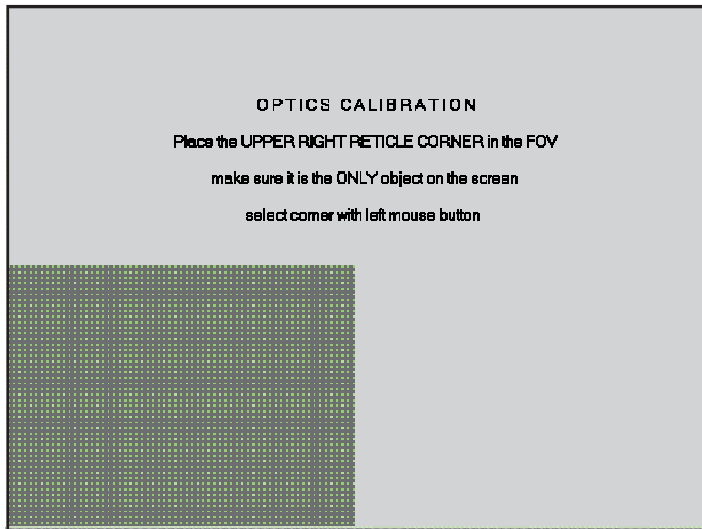

Figure 4-4. Optics Calibration Screen
14. Make sure the upper-right corner of the QVI Alignment Reticle square is approximately centered in the Image window as shown in Figure 4-4.
- The image shown in Figure 4-4 is out of focus, offset from the center, or does not appear at all